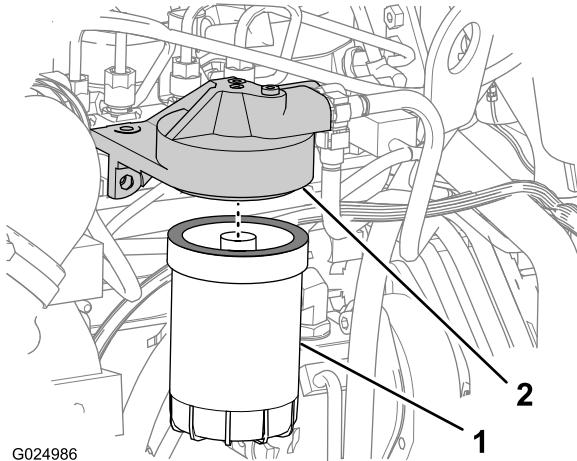

**Figure 74**
- 7. Loosen and remove the primary fuel filter (Figure 74).
1. Wipe clean the sealing surfaces of the filter adapters for the primary- and secondary-fuel filters (Figure 74 and Figure 75).
3. Install the primary-fuel filter onto the filter adapter, and tighten the filter until the gasket contacts the filter head surface (Figure 74).